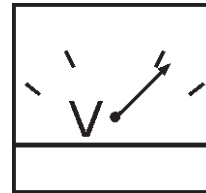

Figure 54. Voltmeter
11. The generator's voltage meter (Figure 54) displays the 120 VAC in **VOLTS**. If the voltage is not within the specified frequency tolerance,